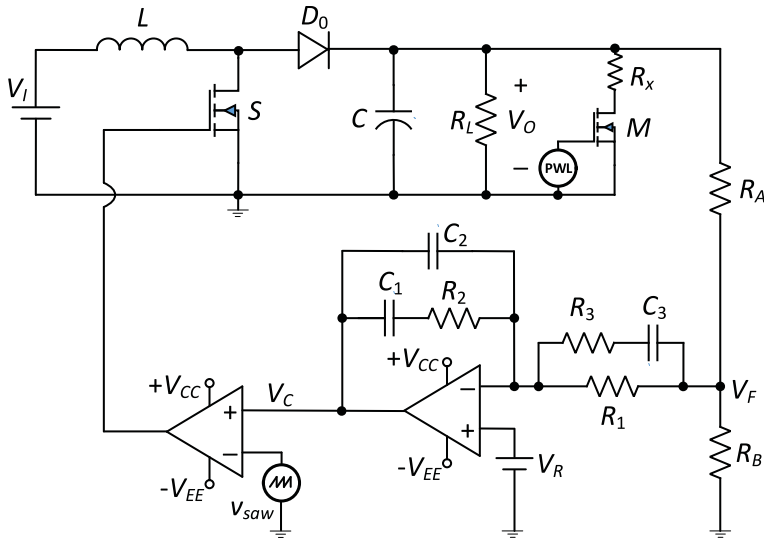

Figure 41.2 Circuit of the voltage-mode controlled boost dc–dc converter used to simulate step change in load resistance.
1. Construct the circuit shown in Figure 41.2 on the circuit simulator. The circuit consists of a series connection of a resistor R_x and an ideal MOSFET M and is placed in parallel with